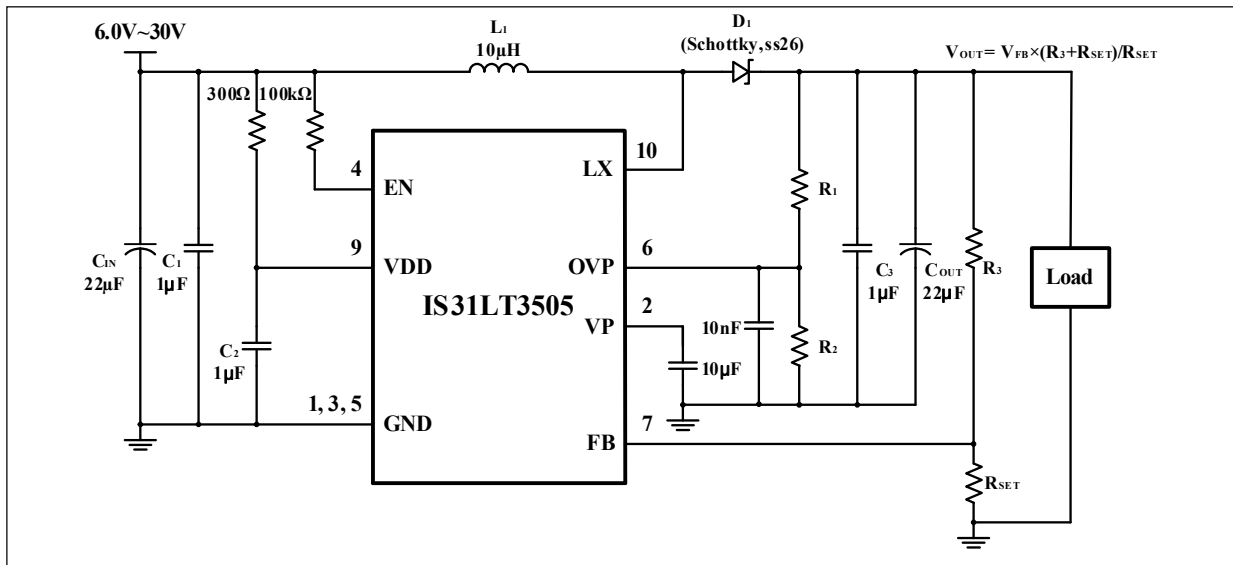

Figure 16 Application Circuit (Constant Voltage to Drive Other Devices)
When IS31LT3505 drives other devices (Figure 16) with the constant voltage, the output voltage is set through the Formula (4). The internal feedback voltage  $V_{FB}$  is 0.3V (Typ.).